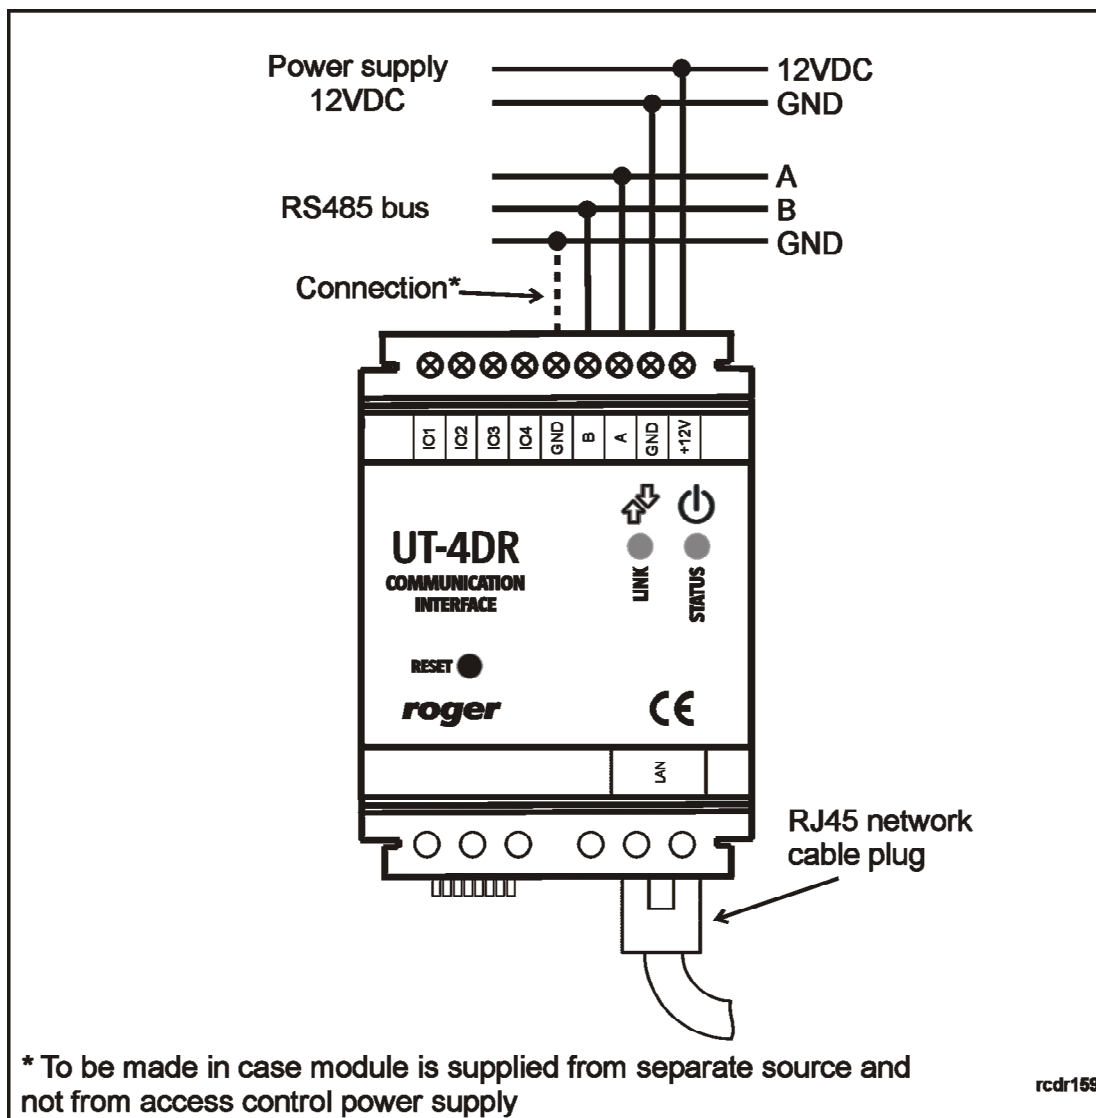

Fig.2 UT-4DR proposed connections diagram in RACS system.
UT-4DR is equipped with two LED diodes indicating actual state of a device (Fig.2). Bi-color LED LINK  $\text{↕}$  informs about currently going transmission in RS485 bus, where green color means data sending, while red data receiving by a module.
The device is supplied from 12VDC voltage (acceptable voltage range 10-15VDC) which can be taken from access control system or from separate power supply source. In this second case it is essential to make electrical connection between power supply ground and RACS system RS485 bus ground (Fig.2).
- If UT-4DR module is supplied from an independent power source (separate from RACS system) it is strongly suggested to make a connection between RS485 and UT-4DR module grounds (Fig.2)